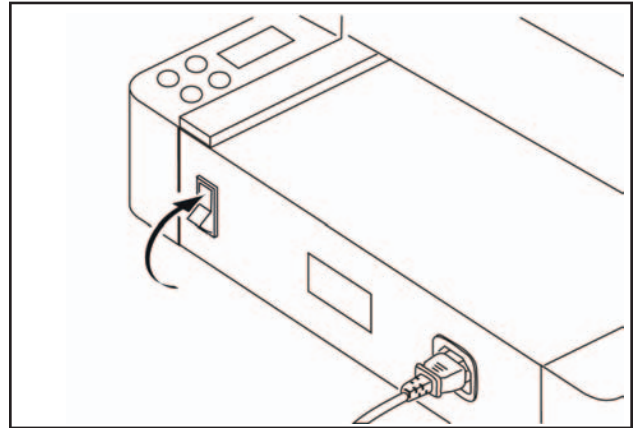

Fig. 4
5. Close the top cover and plug power cord into receptacle on back of unit, and into appropriate wall receptacle (fig. 4).
1. Switch power on (fig. 4).